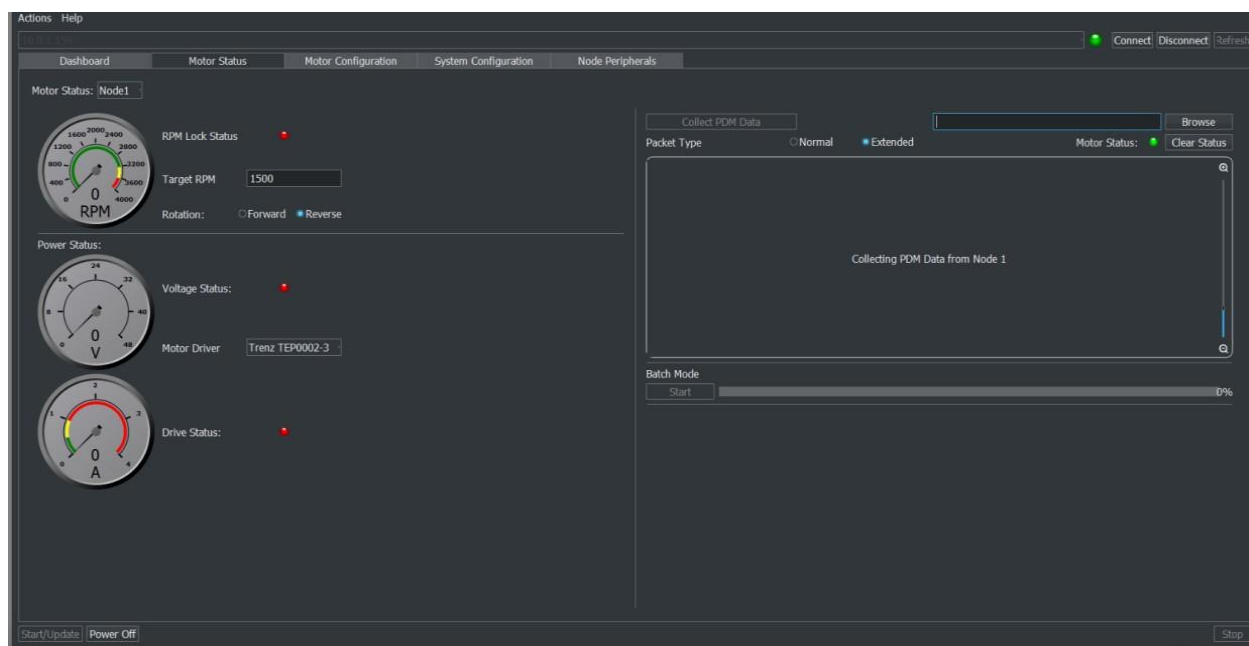

Figure F.8. Application Software- Motor Status Tab: Red Status
**Problem Description:** The motor cannot be stopped from the user interface, and/or RPM Lock Status, Voltage Status, and Drive Status indicators are red, as shown in Figure F.8.